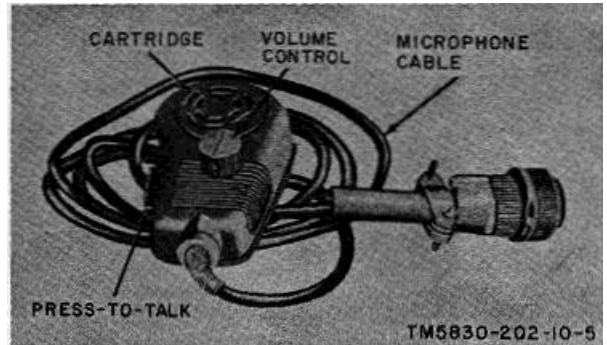

Figure 5. Magnetic Microphone M-88/U.
*c. Microphone* (fig. 5). The microphone contains a cushion-mounted cartridge and volume control. It is fitted with an attached 6-foot cable for connection to the control unit, either directly or through an extension cable.
a. *Microphone* (fig. 5).
## 12. Microphone Input Operation (fig. 5)